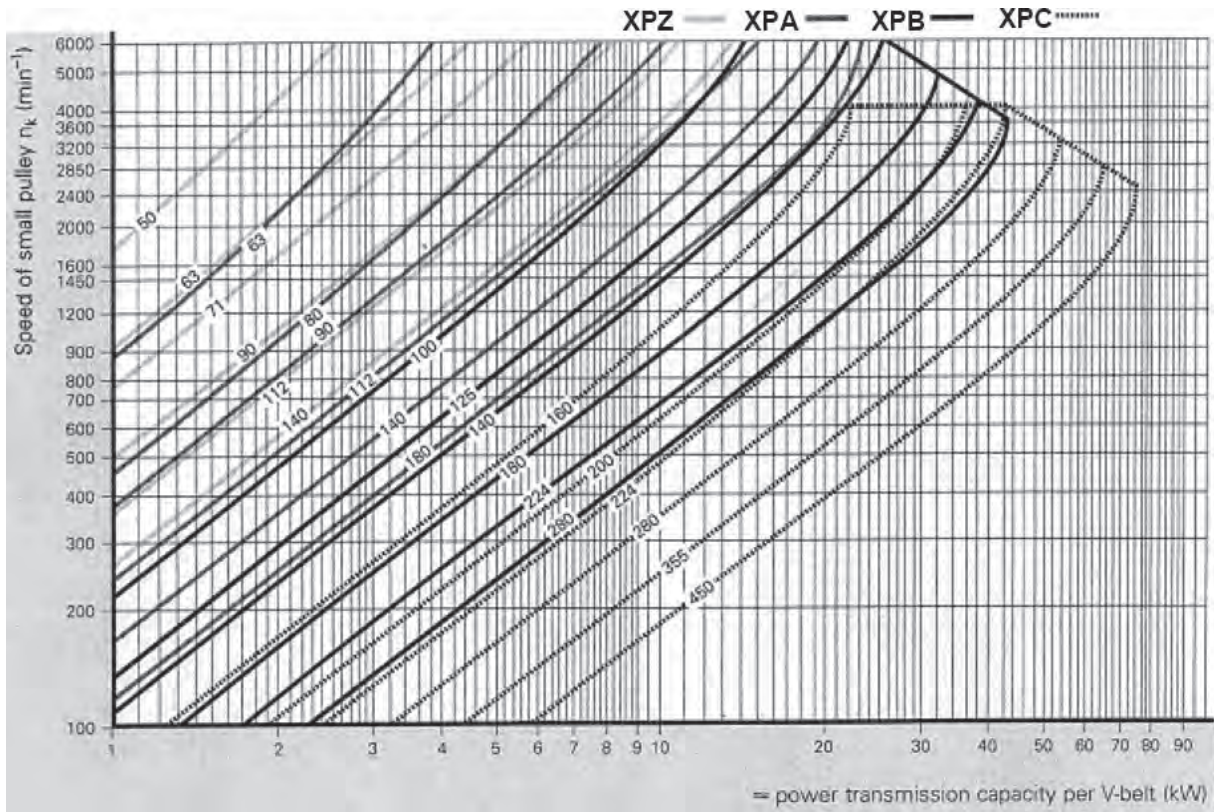
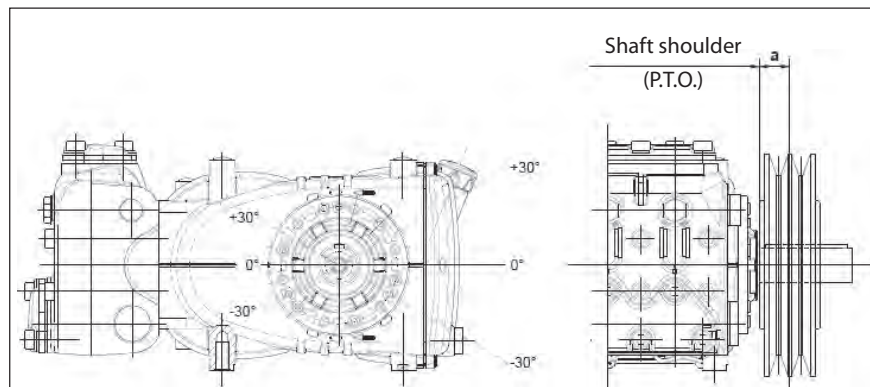

Fig. 7
Fig. 10
For these pump models, we recommend use of 3 XPB belts (16.5x13 serrated). Use an XPC profile only for long durations. Both the characteristics and transmissible power of each belt can be verified in the diagram in Fig. 7, in relation to the number of rpm normally declared by the manufacturer. Minimum duct pulley diameter (on pump shaft): ≥ 160 mm. The radial load on the shaft must not exceed 4500 N (value necessary for Layout definition). The transmission is considered adequate if the load is applied to a maximum distance $a = 50$ mm from the shaft shoulder (P.T.O) as shown in Fig. 10.
- b) Use high performance belts – for example **XPB** instead of **SPB** – as a lower quantity of belts for the same transmitted power may be necessary and a consequent shorter resulting distance compared to the shaft shoulder (P.T.O.) “a” of Fig. 10.
- e) Follow the direction of the belt pull as shown in Fig. 10 for other needs, contact our **Technical** or **Customer Service Departments**.